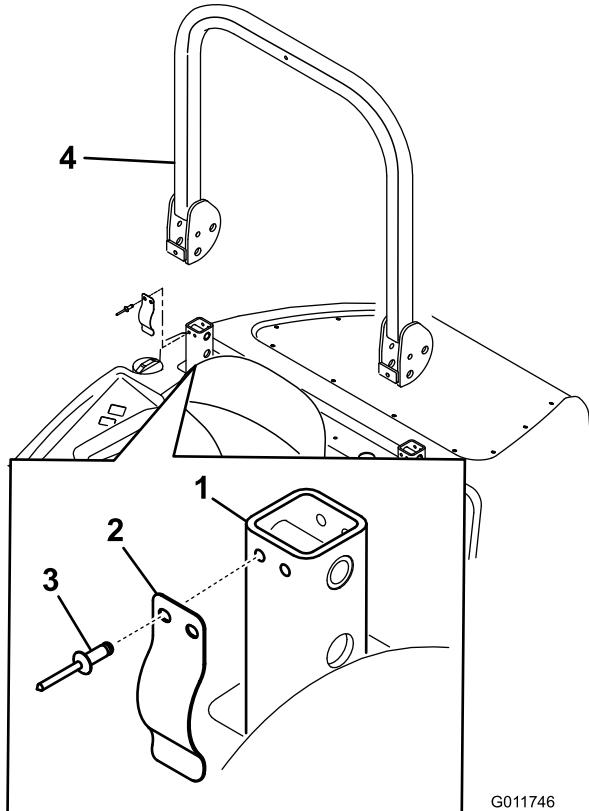

Figure 1
1. Rivet a leaf spring onto the front of each ROPS post (Figure 1).